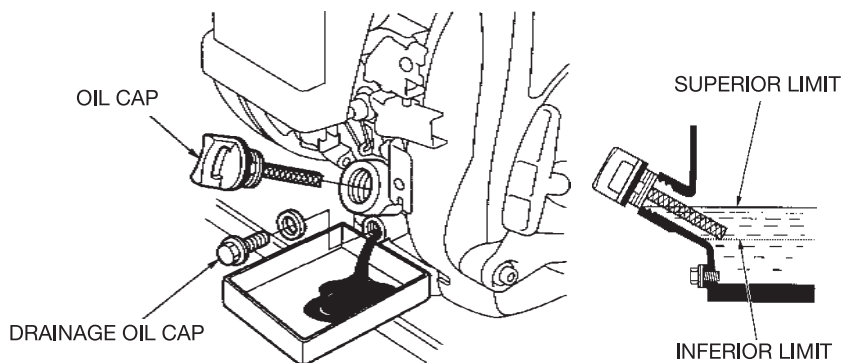

Fig. 10
1. Change the engine oil (as shown on the Fig.10)